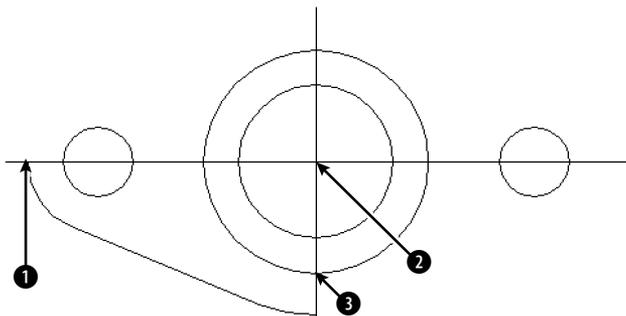

Figure 10-1: A partially completed mounting plate
3. Choose Erase on the Modify toolbar. At the `Select objects:` prompt, pick the line and two arcs to the bottom-right of the two centerlines and then press Enter. The resulting model should look like Figure 10-1.
5. At the `Specify first point of mirror line:` prompt, pick the intersection **1** in Figure 10-1. At the `Specify second point of mirror line:` prompt, pick the intersection **2**.